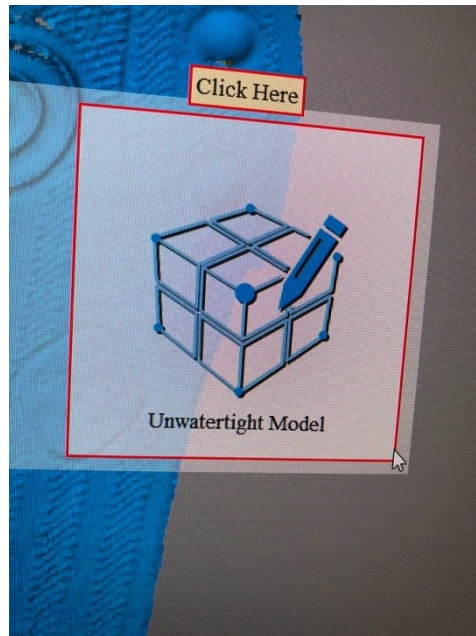

Figure 12: Select "Unwatertight Model".
11. Select "Unwatertight Model" (Figure 12)